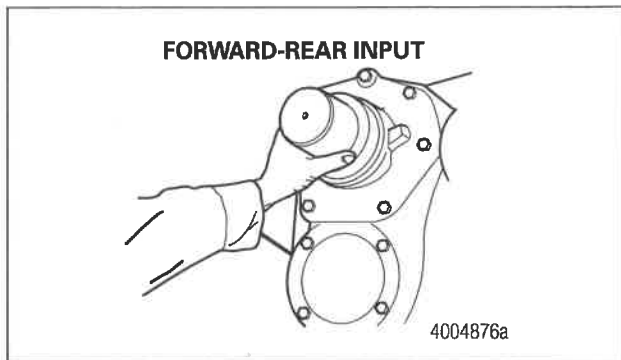

Figure 9
- Install the forward-rear axle input seal. Hold the sleeve and seal only on the outer diameter. Position the seal into the seal driver and align it with the forward-rear axle input bearing cage. Do not touch the lips in the inner diameter of the seal. Use a dead-blow hammer and the appropriate driver to install the seal into the bearing cage. Figure 9.